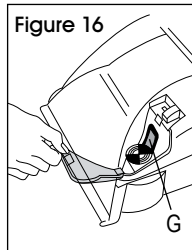

Figure 16
1. Remove clear cover and wipe off screen (G) with a damp cloth.
2. Snap cover back into position. (See Figure 16)